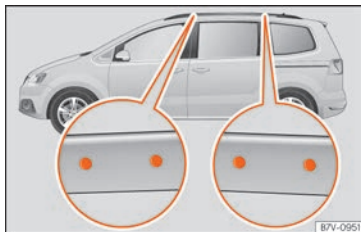

Fig. 178 Attachment points for the basic support and the roof carrier system
The position openings are located on the inner side of the side roof rods »» **Fig. 178**.
- The base support should only be fitted to the points indicated in the diagram »» **Fig. 178**.